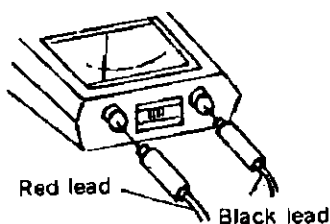

Fig. 1
1. As illustrated in Fig. 1, plug the black test lead into the EARTH terminal, and the red lead into the LINE terminal. Twist the lead plugs to the right to lock them in place.